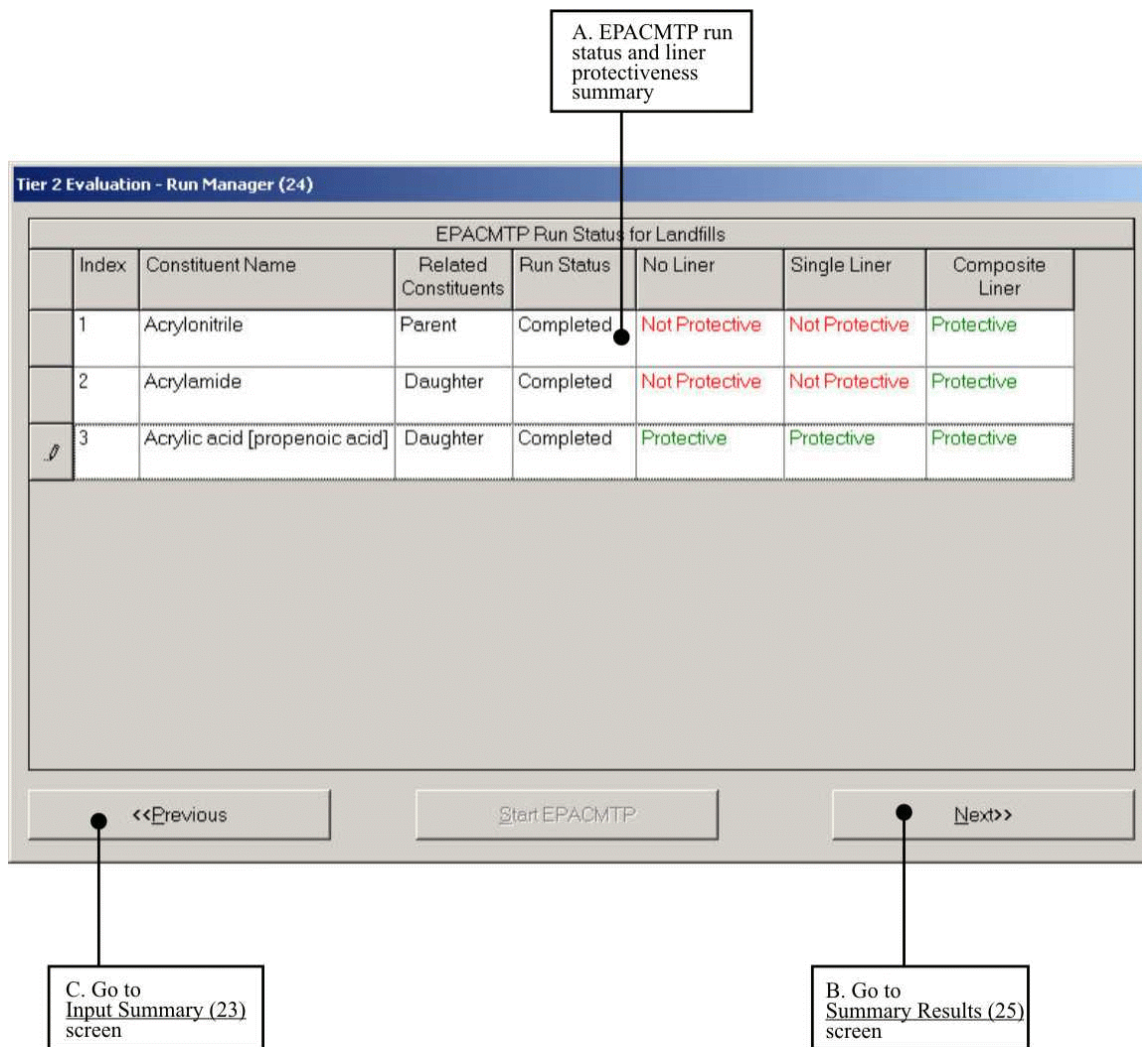

Figure 5.46 Tier 2 Evaluation: Run Manager (24) - Status and Liner Protectiveness Summary.
The summary table displayed on the Run Manager (24) screen, presented below in Figure 5.46, shows you the overall progress of the Tier 2 analysis – the liner recommendation for each completed EPACMTP model run and which (if any) model runs have not yet begun.
The features identified in Figure 5.46 are explained in more detail in the following paragraphs.